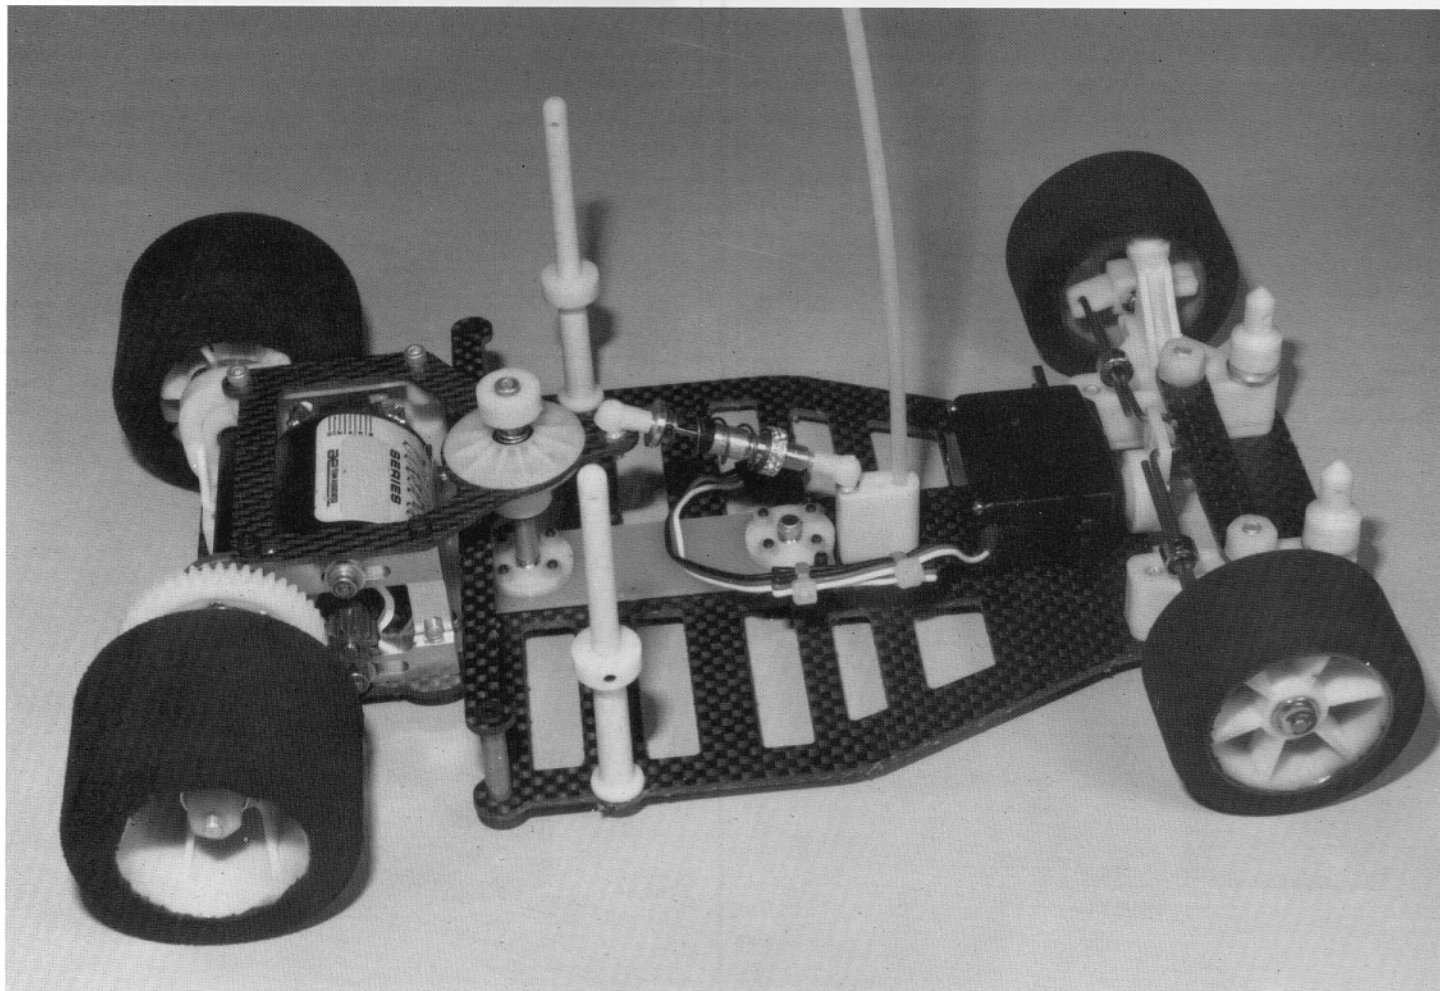

Fig. 75
□ **Figs. 75 & 76**—We'll start with the steering servo. Line up the steering servo exactly as shown in Fig.